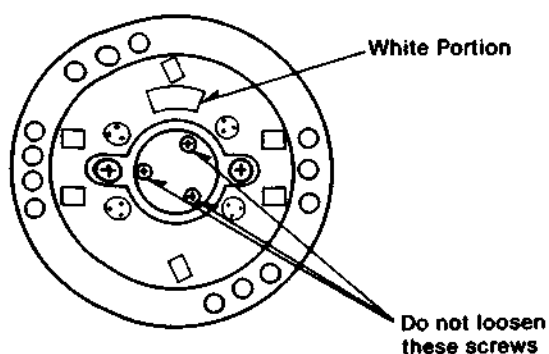

Fig. 1-16
- Do not loosen the 3 small screws on the top of the scanning unit, see Fig. 1-16. If these screws are loosened the scanning unit is broken and can not be restored.